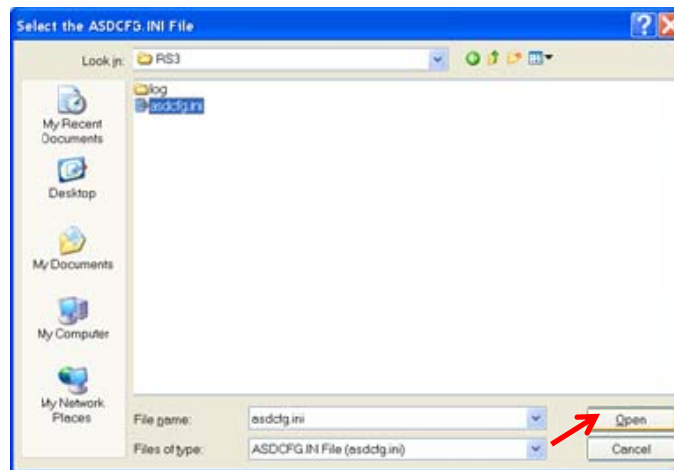

Figure 3-55: Select the asdcfg.ini file
- Step 4 Select the asdcfg.ini file in the RS3 folder and click Open (Figure 3-55).